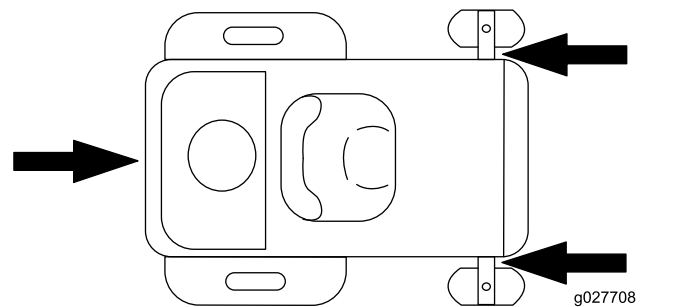

Figure 31
6. Tie down the machine near the front caster wheels and the rear bumper with straps, chains, cable, or ropes (Figure 31). Refer to local regulations for tie-down requirements.